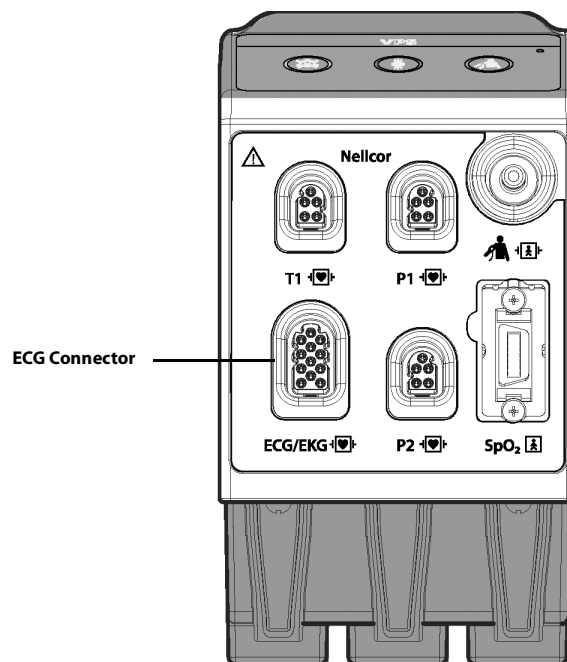

FIGURE 9-1 Example VPS ECG Connector (Nelcor)
The VPS module supports one (1) ECG/EKG connector (shown in FIGURE 9-1).